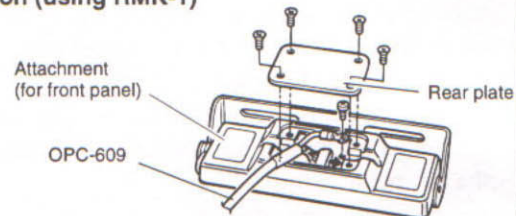

Fig. 1
- ① Separate the front panel from the transceiver main unit using an allen-wrench (1/32 in).
- ② Connect the optional OPC-609 cable to the both front and main unit attachments (fig 1 and 2).